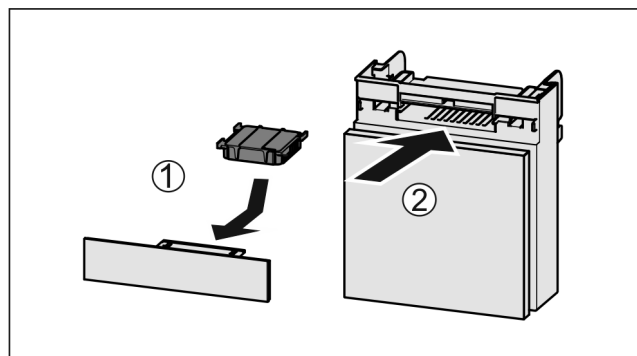

Fig. 86
- Insert the carbon filter as shown in the diagram Fig. 86 (1).
- Push the compartment in Fig. 86 (2).